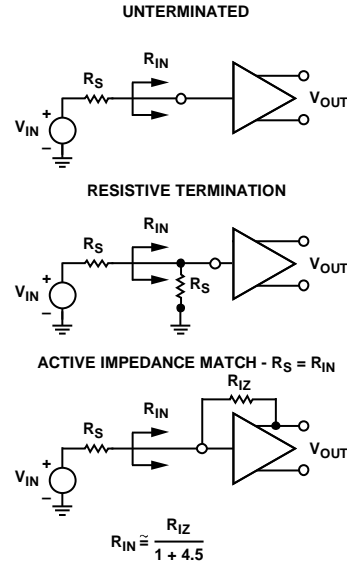
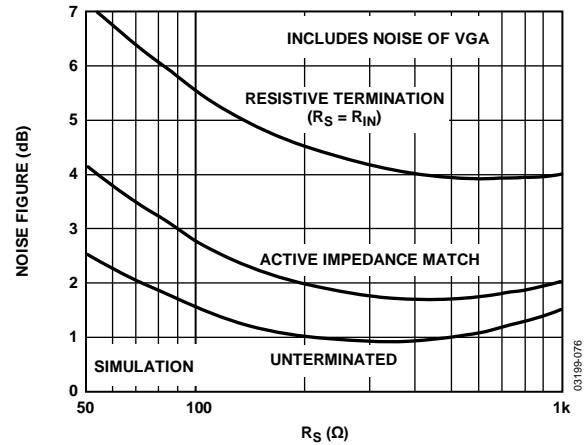
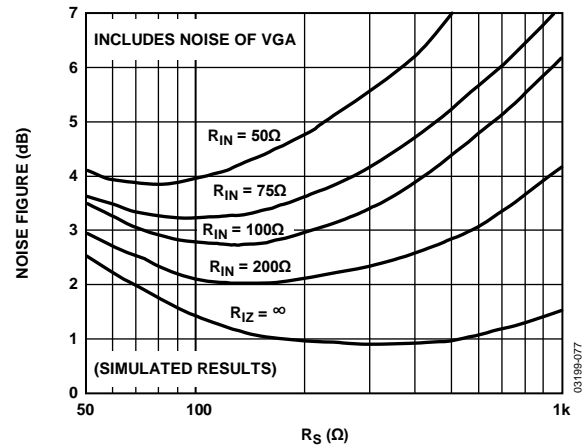

Figure 75. Input Configurations
Figure 76. Noise Figure vs.  $R_S$  for Resistive, Active Match, and Unterminated Inputs
Figure 77. Noise Figure vs.  $R_S$  for Various Fixed Values of  $R_{IN}$ , Actively Matched
The input-referred voltage noise sets an important limit on system performance. The short-circuit input voltage noise of the LNA is 0.74 nV/ $\sqrt{\text{Hz}}$  or 0.82 nV/ $\sqrt{\text{Hz}}$  (at maximum gain), including the VGA noise. The open circuit, current noise is 2.5 pA/ $\sqrt{\text{Hz}}$ . These measurements, taken without a feedback resistor, provide the basis for calculating the input noise and noise figure performance of the configurations in Figure 75. Figure 76 and Figure 77 show simulations extracted from these results and the 4.1 dB noise figure (NF) measurement with the input actively matched to a 50  $\Omega$  source. Unterminated ( $R_{IZ} = \infty$ ) operation exhibits the lowest equivalent input noise and noise figure. Figure 76 shows the noise figure vs. source resistance, rising at low  $R_S$ , where the LNA voltage noise is large compared to the source noise, and again at high  $R_S$  due to current noise. The VGA input-referred voltage noise of 2.7 nV/ $\sqrt{\text{Hz}}$  is included in all of the curves.
The primary purpose of input impedance matching is to improve the system transient response. With resistive termination, the input noise increases due to the thermal noise of the matching resistor and the increased contribution of the LNA input voltage noise generator. With active impedance matching, however, the contributions of both are smaller than they would be for resistive termination by a factor of  $1/(1 + \text{LNA Gain})$ . Figure 76 shows their relative NF performance. In this graph, the input impedance is swept with  $R_S$  to preserve the match at each point. The noise figures for a source impedance of  $50\ \Omega$  are 7.1 dB, 4.1 dB, and 2.5 dB, respectively, for the resistive, active, and unterminated configurations. The noise figures for  $200\ \Omega$  are 4.6 dB, 2.0 dB, and 1.0 dB, respectively.
Figure 77 is a plot of NF vs.  $R_S$  for various values of  $R_{IN}$ , which is helpful for design purposes. The plateau in the NF for actively matched inputs mitigates source impedance variations. For comparison purposes, a preamp with a gain of 19 dB and noise spectral density of  $1.0\ \text{nV}/\sqrt{\text{Hz}}$ , combined with a VGA with  $3.75\ \text{nV}/\sqrt{\text{Hz}}$ , yields a noise figure degradation of approximately 1.5 dB (for most input impedances), significantly worse than the AD8331/AD8332/AD8334 performance.